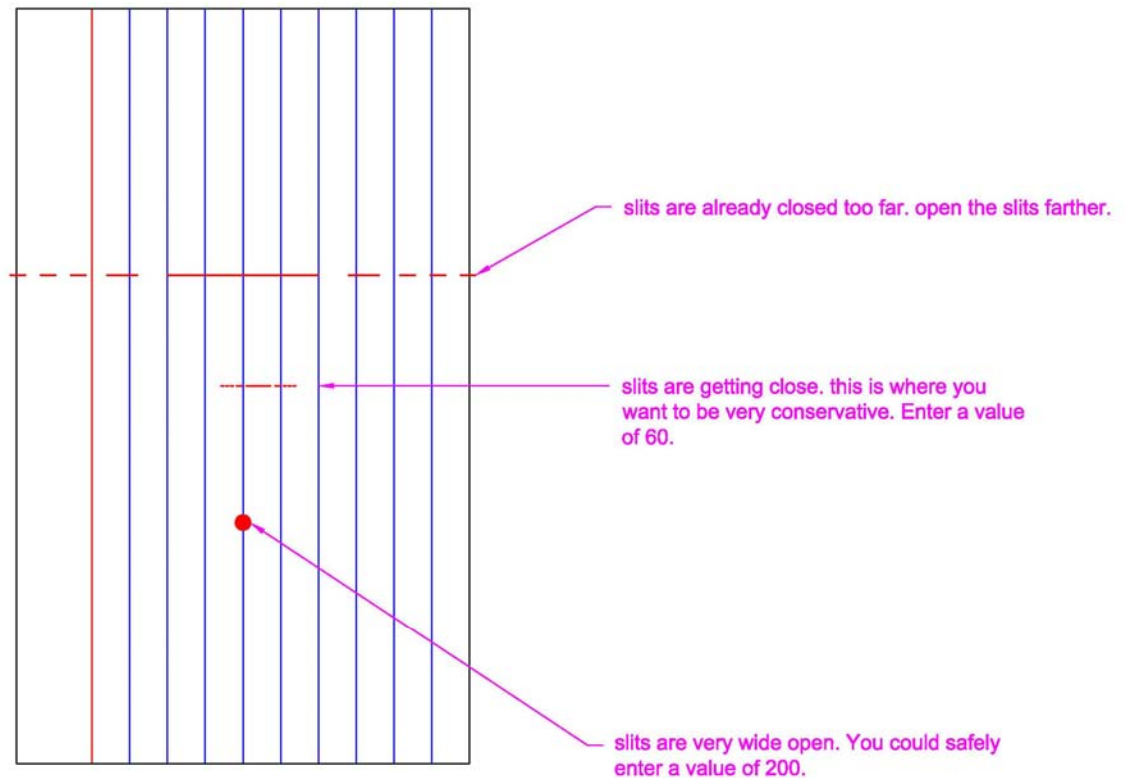

Figure 2. Various slit widths and calibration offset commands.
- microns wide. The closer the slit is to being calibrated properly, the more important it is to enter conservative calibration values to avoid damaging the blades. Refer to Figure 2 for some examples.